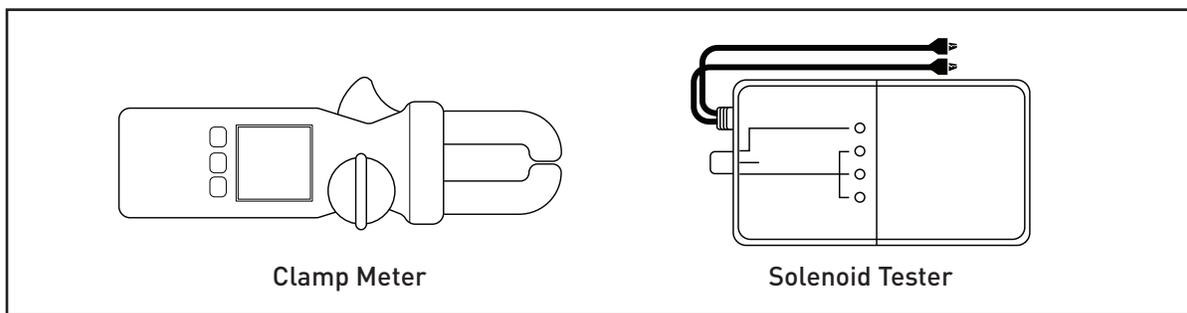

Figure 16. Digital Clamp Meter and Solenoid Tester
- A digital clamp meter featuring True RMS. See Figure 16
- Solenoid tester, see Figure 16